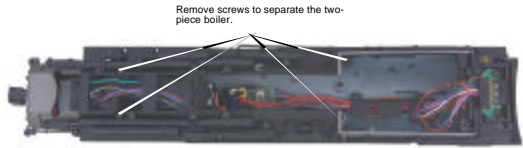

Figure 14
1. To replace the headlight in this model you will need to follow the disassembly instructions for smoke unit maintenance in figure 14 on pg. 19. Once the smoke unit is removed you can access the wires for the headlight (see figure 8).
1. Remove the four mounting screws that secure the bottom half of the boiler to the top half as seen in Fig. 14.